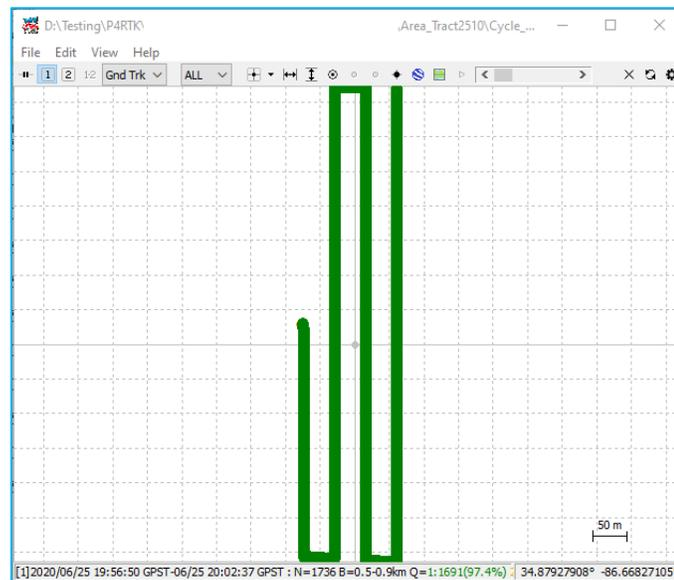

Figure 155 - Quality 1 solution for entire plot
1. Once complete, you will be prompted to view the **Trajectory Plot**. Select *Yes* to view the plot, or *No* to move to the next step. You may reopen the **Trajectory Plot** at any time by selecting  on the Sensor tab. You desire a Q1 solution for the complete plot. Observe the plot (Figure 155) and check for large gaps. Also, check to make sure the flight lines match those of the flight plan.